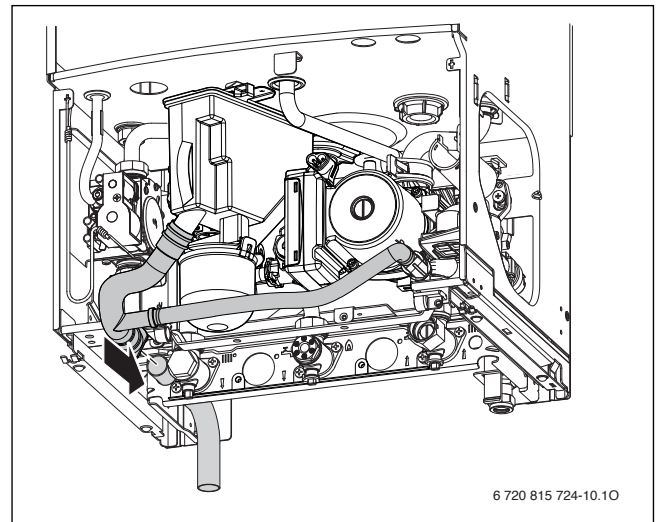

Fig. 39 Condensate connection
- ▶ Refer to figure 39, condensate connection: